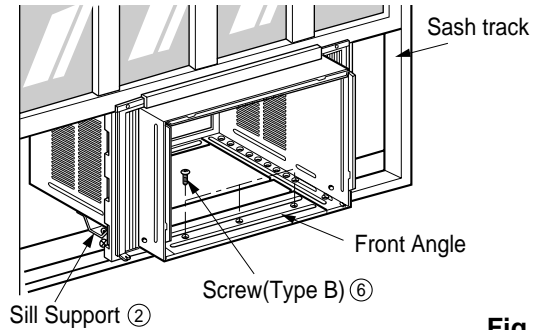

Fig. 5
6. The cabinet should be installed with a very slight tilt (about 1/2") downward toward the outside (See Fig. 5).